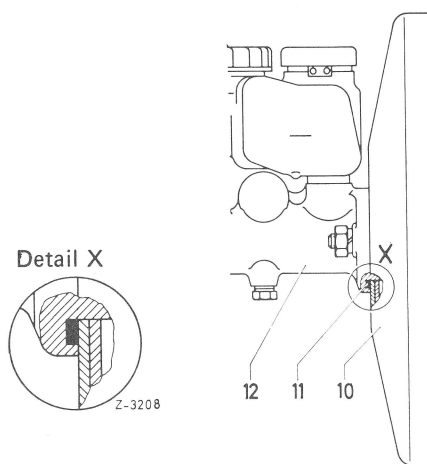

Fig. 4
4 Loosen tandem master cylinder on brake unit (10) and remove, while watching O-ring (11), located in groove in flange of tandem master cylinder (Fig. 4).
5 Insert O-ring (11) into groove of tandem master cylinder and attach master cylinder to brake unit (10) (Fig. 4). Tighten hex. nut to 15 Nm (1.5 kpm).